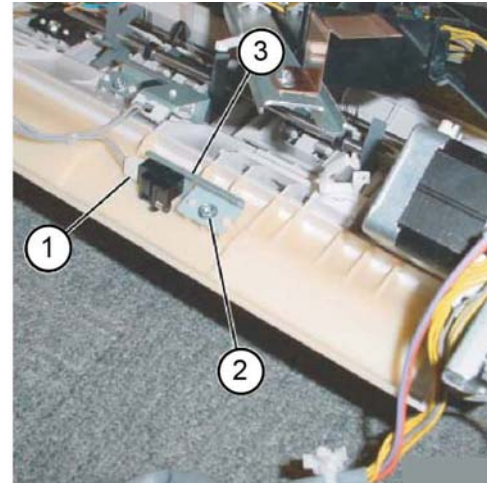

Figure 3 Finisher entrance sensor assembly removal
6. Remove the finisher entrance sensor assembly, Figure 3:
- a. Disconnect the connector (1).
- b. Remove the self-tapping screw (2).
- c. Remove the finisher entrance sensor assembly (3).